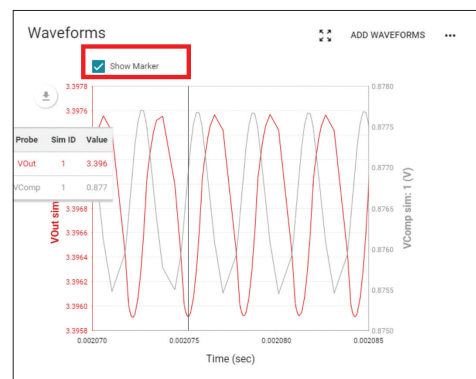

Figure 16.
8. Check the 'Marker' to enable it and find the minimum and maximum voltages by moving cursor along the waveform as shown in **Figure 16**. Calculate the average of these two values and enter it in **Table 2**.